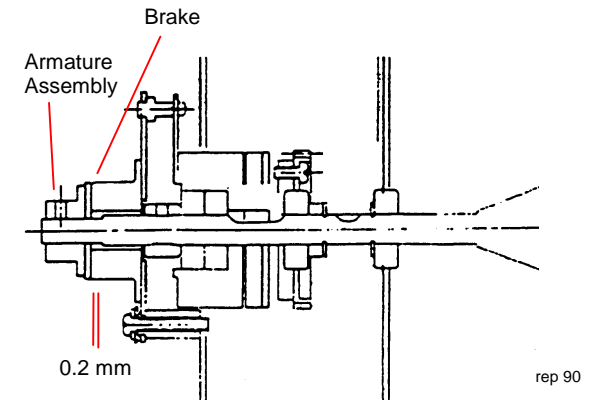

Figure 2. Setting the Brake Gap
1. (Figure 2): Set the gap between the Armature Assembly and the brake to 0.2 mm.